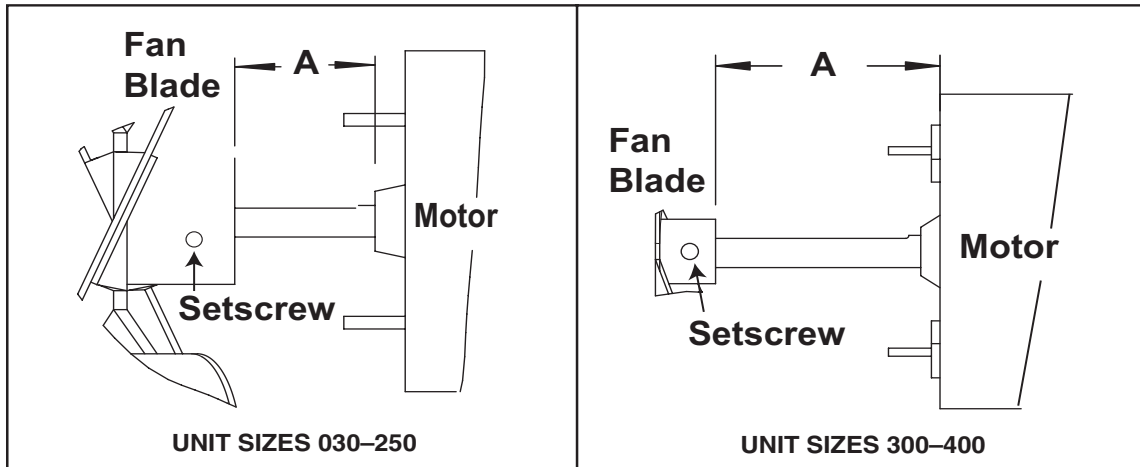

Figure 18. Fan Blade Positioning and Spacing
6. Ensure that fan blade is in proper position on shaft (see **Figure 18**) and that blades are properly spaced (refer to **Table 23**).
*See **Figure 18**.